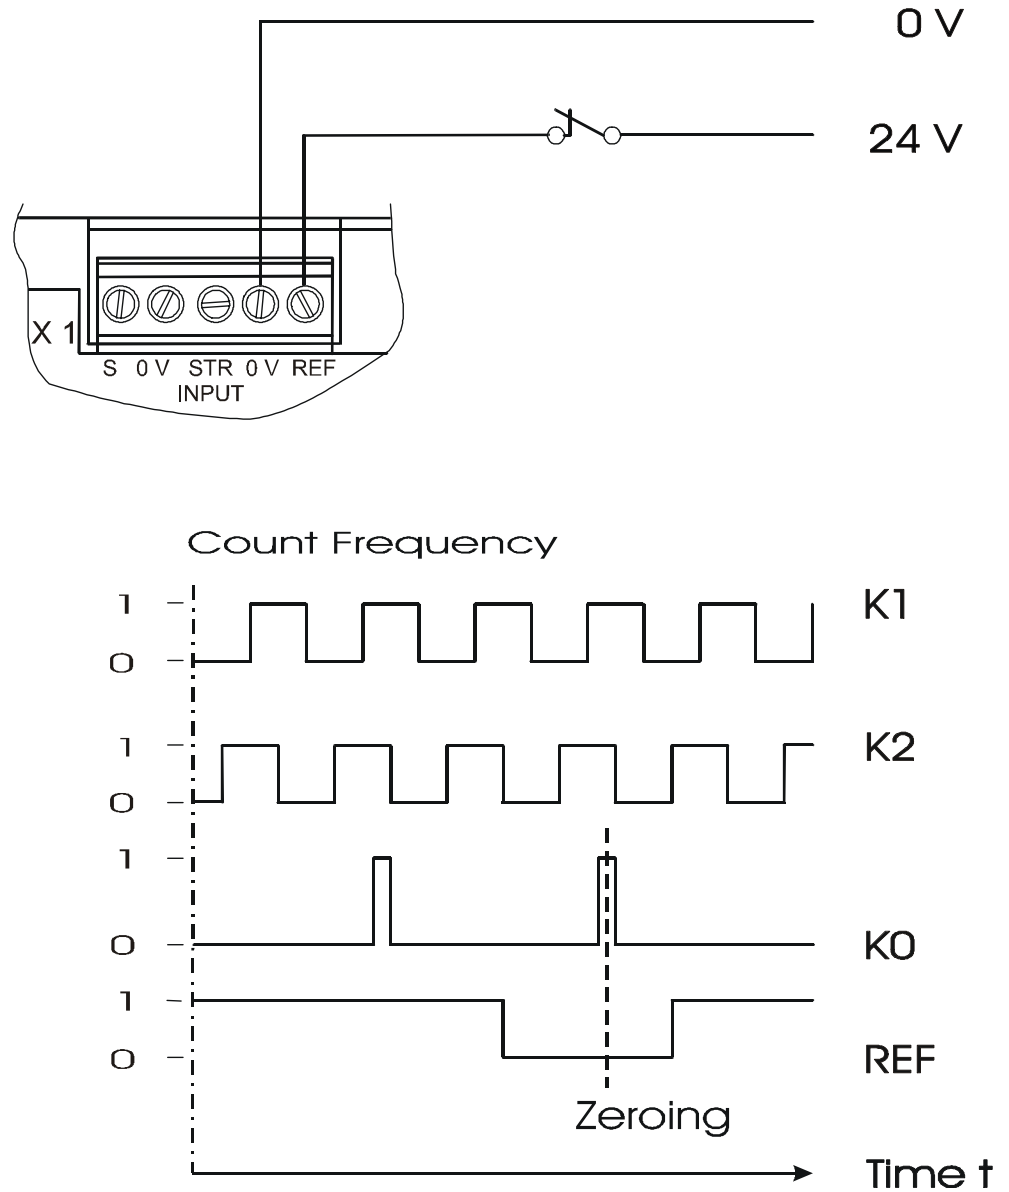

Fig. 50: Pulse sequence of counting signals
- For initialisation through hardware the input of terminal REF is to be set to zero (REF = 0) Through its 15-pin SUB-D connector, the incremental encoder supplies K0 = 1 (refer to fig. 50: "Pulse sequence of counting signals", page 206).